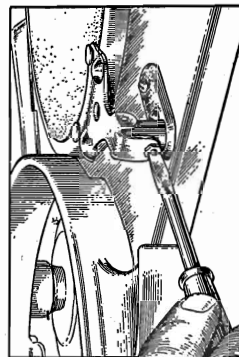

Figure 10—Record transfer lever adjustment
- (c) Improper height of record transfer lever. The small plate on top of the motor board at the left side of the turntable should be so adjusted that it will depress approximately $\frac{1}{16}$ " when the magazine swings over the turntable. When this adjustment is made correctly, the transfer lever will engage the bottom record in the magazine as the latter is swinging back into the playing position. A small adjusting screw and lock nut are provided for this adjustment. See Figure 10.
Referring to Figure 10, the schematic diagram, it will be noted that a common lead is used for the pilot lamp and the selector buttons in the remote control box. By doing this, when a selector button on the box is pressed, the current through the common lead is increased, likewise the voltage drop in the lead is increased. The result is that while the motor is running the pilot lamp becomes very dim. As soon as the motor stops, the lamp flashes bright, thus indicating that the motor has stopped and the station is tuned in. If the station is not then heard, it is necessary to press the + volume control button a little at a time until the desired output level is obtained.